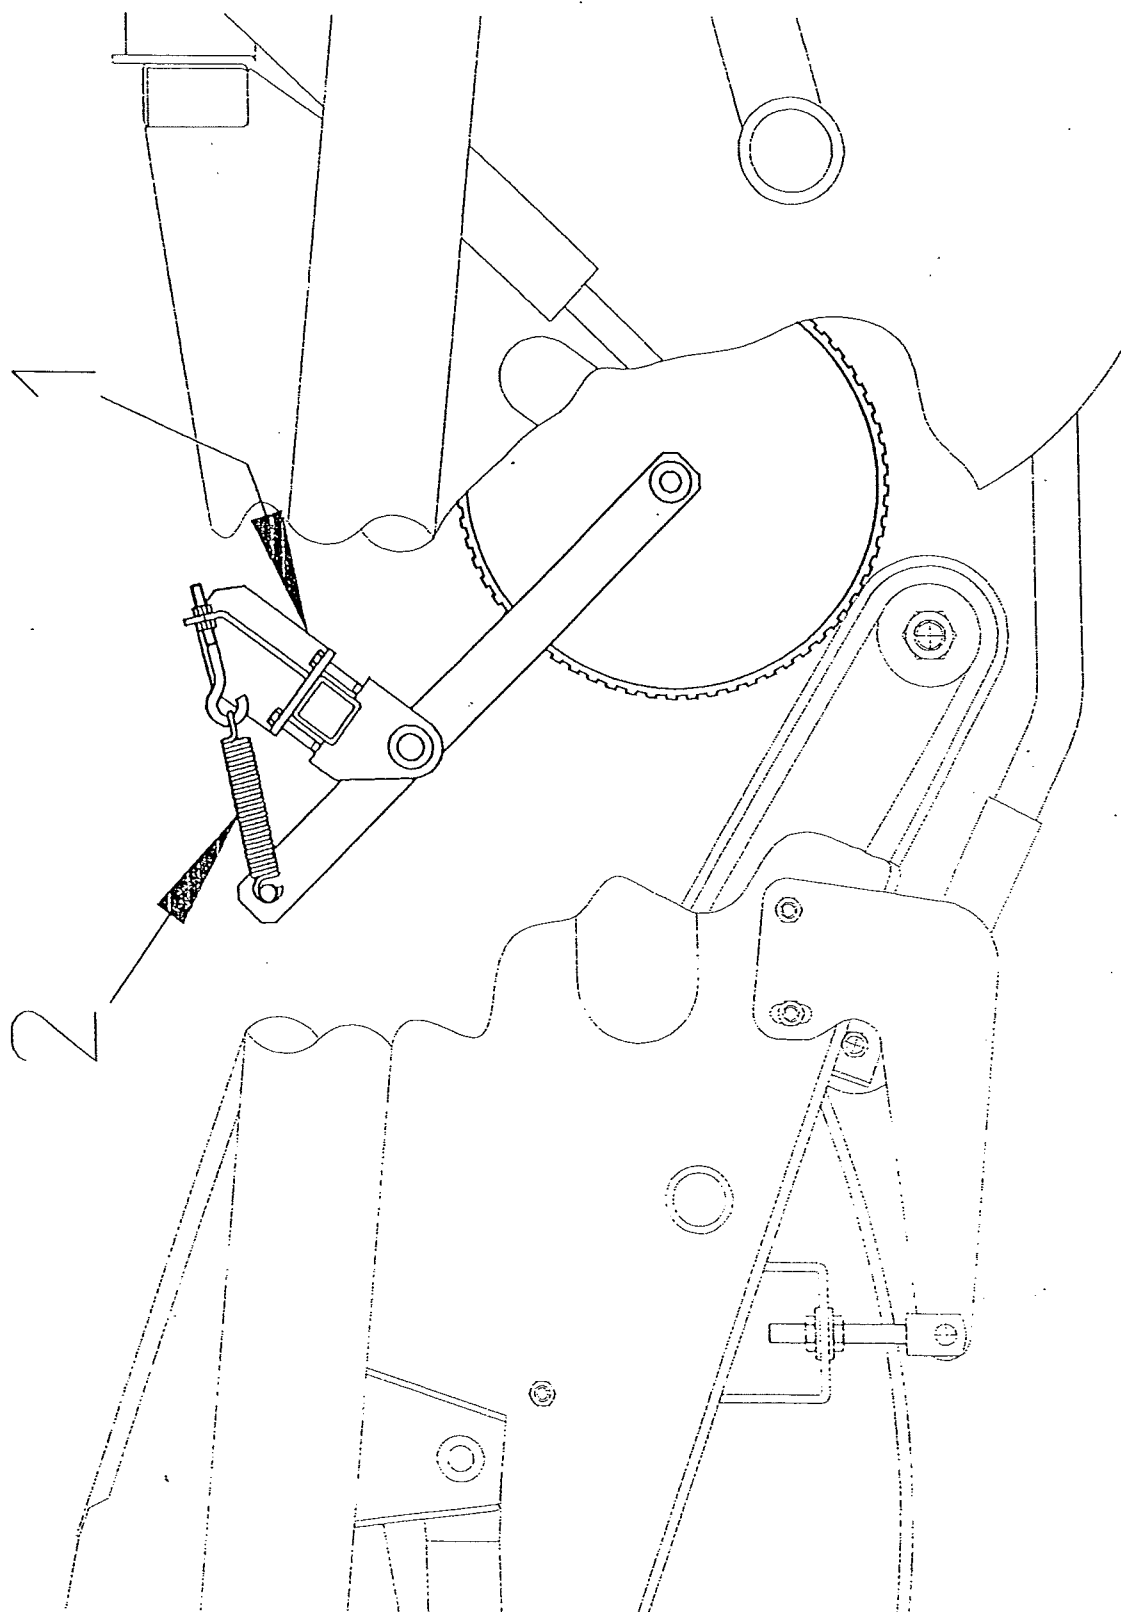

Fig 12.8
In place of the standard anti-roll flaps a set of haulm feed in rollers can be fitted. These are for difficult haulm conditions and are mounted on top of the front edge of the main web, on the outside of the discs. The rollers fill the gap between the disc and the side panel and between the two centre discs, if fitted. To achieve the required row settings additional rollers and spacers may be fitted (fig 12.8). these additional roller and spacers are attached to the original rollers by suitable length bolts. Further adjustments of the rollers width position can be made by moving them laterally on their mounting beam. Slacken clamp bolts (fig 12.8 item 1), move the roller unit to the required position and tighten the clamping bolts again. Under some row settings it may be necessary to exchange the left hand and right hand roller units in order to achieve the optimum settings.
The loading of the haulm feed in rollers may be adjusted, to give more or less pressure between rollers and web. This is achieved by increasing or decreasing the spring tension between the roller mounting arm and the spring ashore (fig 12.8 item 2). The tension should be sufficient to allow the rollers to grip the haulm and to achieve a positive drive from the web.